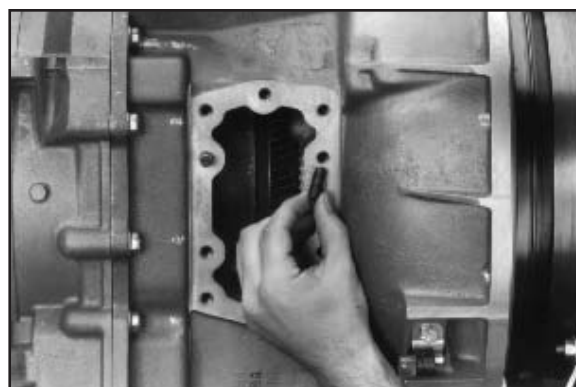

Fig. 4
4. Using a screwdriver, install the guide pins until they bottom out (**Fig. 4**) (Refer to Page 39 for correct location and use).